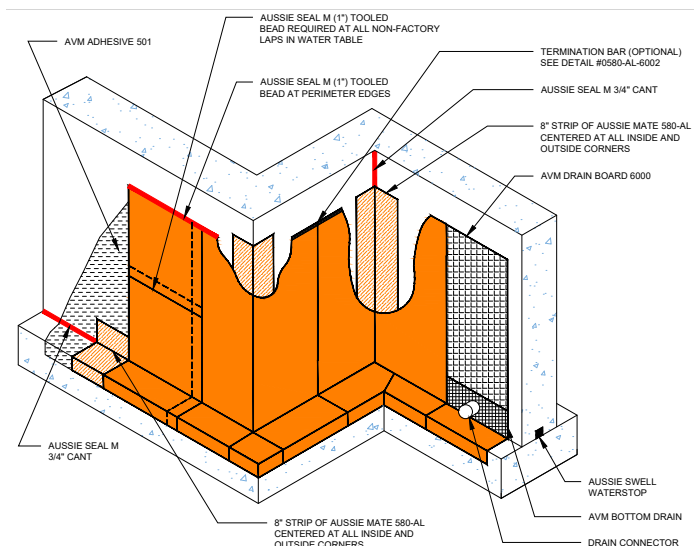
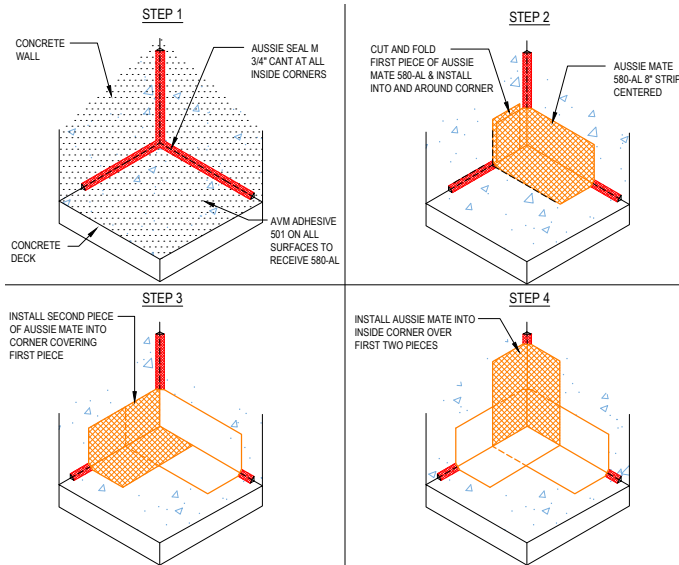

FIGURE 1.1 – STANDARD INSIDE, OUTSIDE & FOOTING DETAILING
FIGURE 1.4 - INSIDE CORNER
**Inside & Outside Corners:** Pre-strip all inside and outside corners with an 8" wide piece of Aussie Mate 580-AL centered over the corner. Wall-to-deck joints and inside corners require a 45 degree 2" x 2" mortar or 3/4" Aussie Seal M cant strip prior to installing 8" Aussie Mate detail strip. See figure 1.1 for standard detailing.
**Inside Corner:** To further illustrate the above **Figure 1.1**, **Figure 1.4** will provide a step-by-step approach to doing an inside corner detail with the Aussie Mate 580-AL. The first step would be to install  $\frac{3}{4}$ " cants of Aussie Seal M in all corners as well as Adhesive 501 on all surfaces. Take an 8" piece of 580-AL, cut and fold it to fit into the corner, A second piece of Aussie Mate 580-AL will be placed over the wall with less membrane as shown below. Finally, install Aussie Mate 580-AL into the corner and over the two pieces already in place.